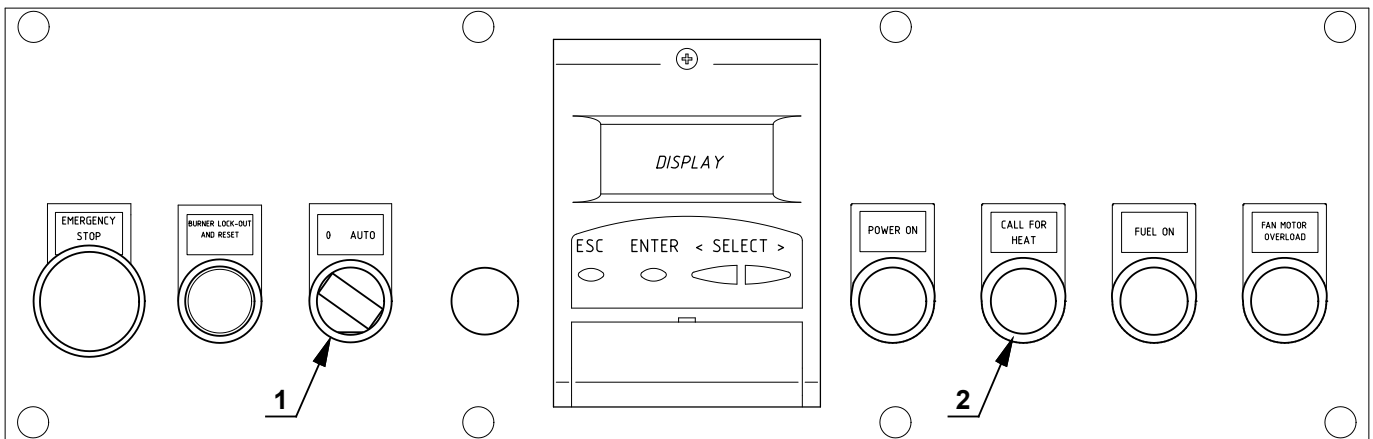

Fig. 24
Close the remote controls and position the selector 1)(Fig. 24) to “AUTO”.
When the limit thermostat (TL) is closed, the “CALL FOR HEAT” 2)(Fig. 24) signal must be on and the burner starts the starting cycle.